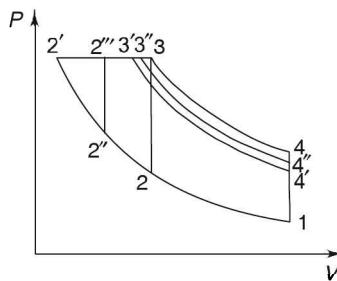

FIGURE 6.9 Equal maximum pressure and heat input.
2. Cycles for equal maximum pressure and heat input are shown in Figure 6.9. The Otto cycle is 1–2–3–4, the Dual cycle is 1–2''–2'''–3'''–4''' and the Diesel cycle is 1–2'–3'–4'. As per the area enclosed, we can say $\eta_{\text{Diesel}} > \eta_{\text{Dual}} > \eta_{\text{Otto}}$.